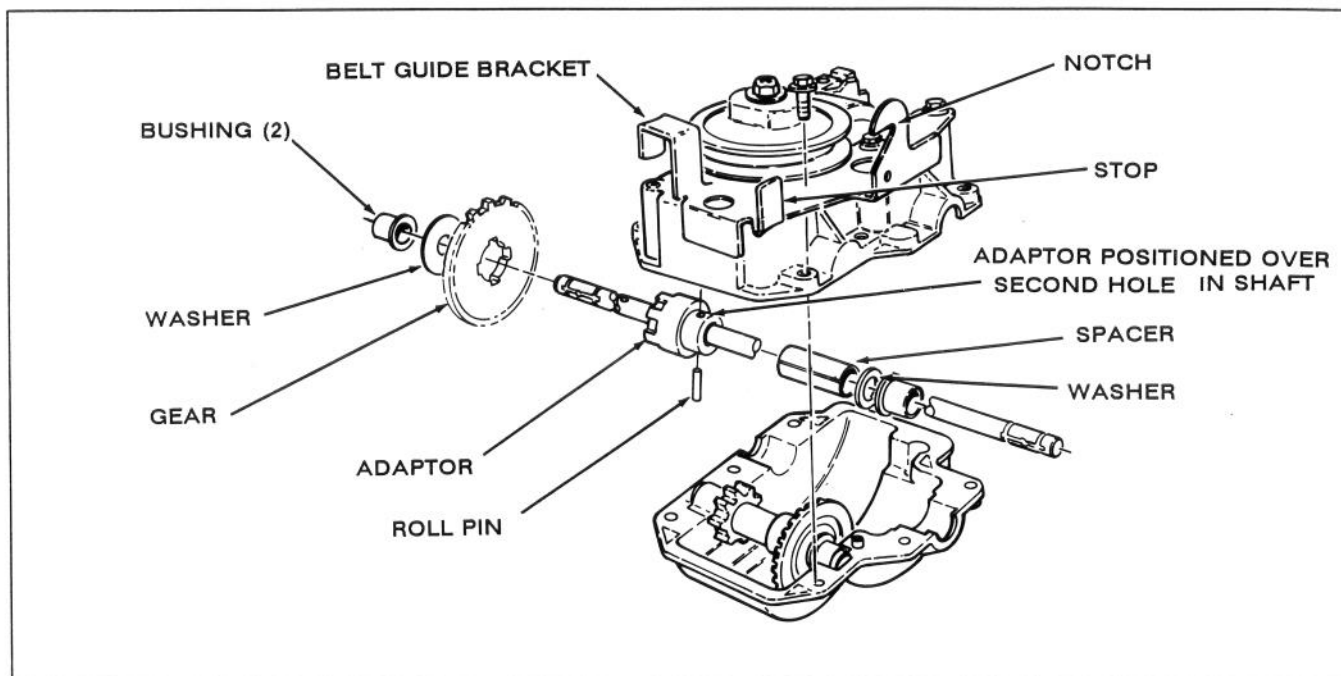

Figure 1
**REPOSITION DRIVE SHAFT (Fig. 1)**
1. Remove (2) screws securing belt guide bracket to transmission.
2. Remove (6) self-tapping screws that hold the two transmission halves together.
3. Slide (2) bushings, (2) washers, spacer and gear off drive shaft.
7. Reinstall gear, spacer, (2) washers and (2) bushings on drive shaft.
**TRANSMISSION BELT GUIDE BRACKET (Fig. 1)**
1. Remove (2) screws securing old belt guide bracket to old transmission.
2. Fasten old bracket onto new transmission with (2) screws removed previously. Torque screws to 75-160 in-lbs.